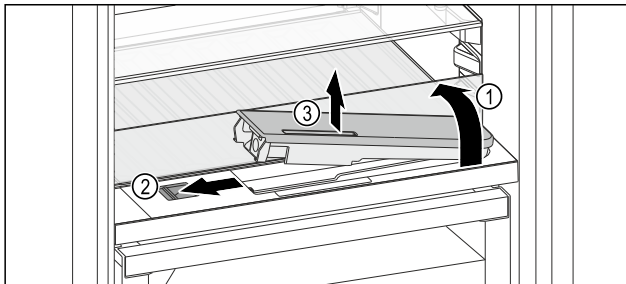

Fig. 170
- Lift the glass panel and fold to the back as far as it will go Fig. 170 (1).
- Slide the slider Fig. 170 (2) to the left.
- Remove the water tank Fig. 170 (3).